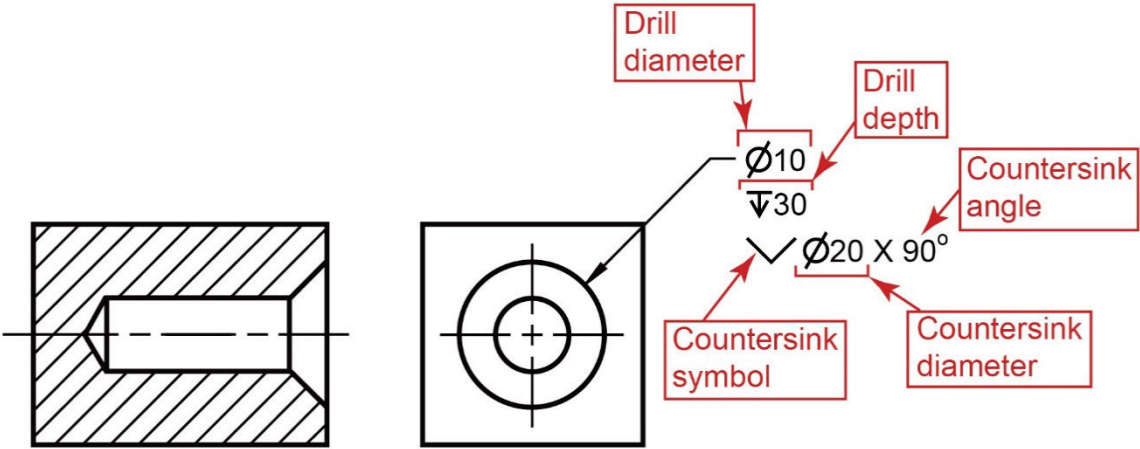

Figure 7.4-13: Countersunk holes.
- p) Countersunk holes are specified by giving the diameter (ϕ) of the drill (and depth if appropriate), the diameter (ϕ) of the countersink (\sphericalangle), and the angle of the countersink in a note as shown in Figure 7.4-13.